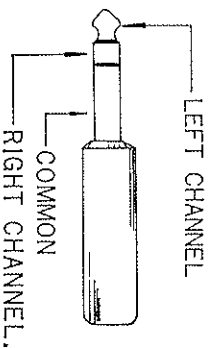

Figure 6. Stereo Phone Plug
**Headphones** This jack accepts the standard 3-conductor phono plug used on standard stereo headphones. (see Figure 6.) It is fed from the power-amplifier section through isolation resistors, and gives optimum results with popular low-impedance headphones. Excellent results, however, will also be obtained with high-impedance headphones. Two or more sets of headphones may be used with the aid of a "Y" connector.